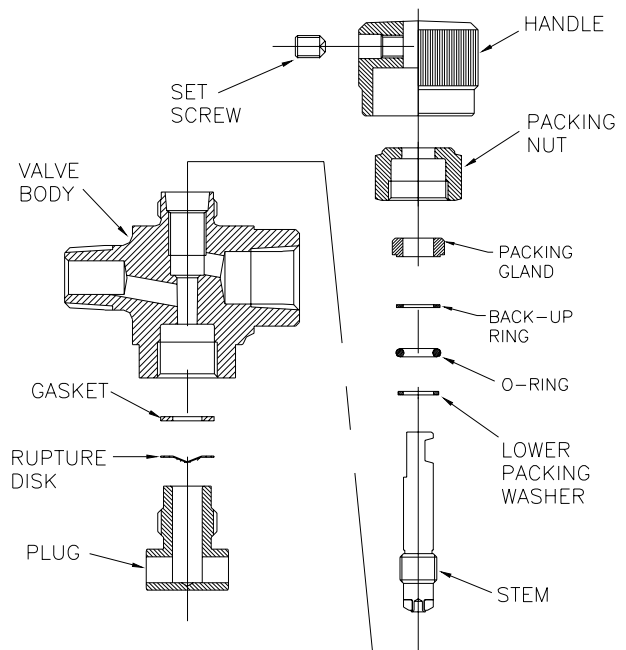

Figure 3: RVCK Series Valve w/ O-Ring Packing Exploded View
15. The next two steps only apply to Valves with an O-Ring Stem packing. Proceed to step 17 for Valves with the standard PTFE stem packing configuration. Refer to Figure 3. Apply a small amount of lubricant, as consistent with the valve’s service requirements, to the new O-Ring.
16. Refer to Figure 3. Stack the four packing components on the Stem in the following order, with the first item being placed directly above the Stem threads. Then proceed to Step 18.